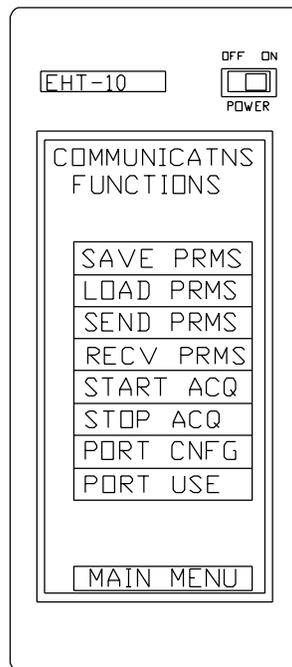

Figure 9 Communications Functions Menu
- * Press **Commnctns** on the FST Main menu. The hand terminal displays the Communications Functions menu, as shown in figure 9.
- * Press **Commnctns** on the FST Main menu. The hand terminal displays the Communications Functions menu, as shown in figure 9, above.
- * Press **Commctns** on the FST Main menu. The hand terminal displays the Communications Functions menu, as shown in figure 9, above.